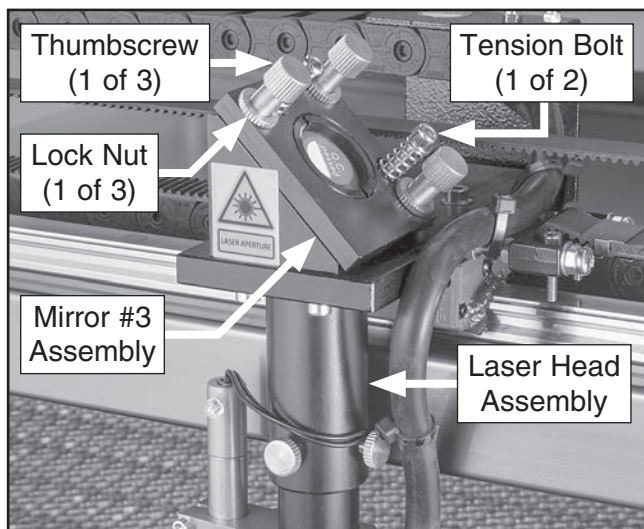

Figure 131. Mirror #3 assembly components.
- 22.** Loosen lock nuts on (3) brass thumbscrews located behind Mirror #3 assembly (see **Figure 131**).